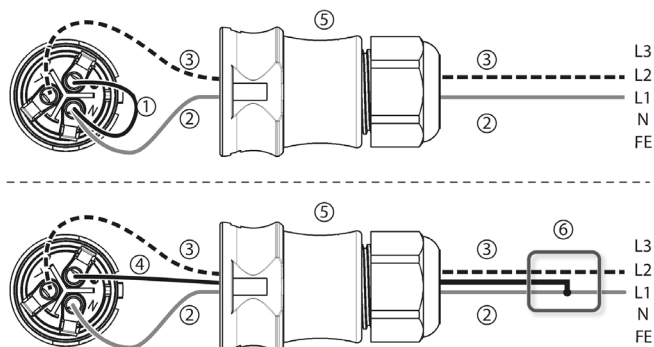

Figure 27
- N and L are connected between the L1 – L2 external conductors on the inverter side. See ② and ③ in Figure 27.
- Figure 27 shows an example of an inverter-side connection between L1 and PE:
- Figure 27: as above.
5. Connect one of the two connected phases to PE at the inverter side. Make this connection inside the AC plug or use an external junction box; see Figure 27.